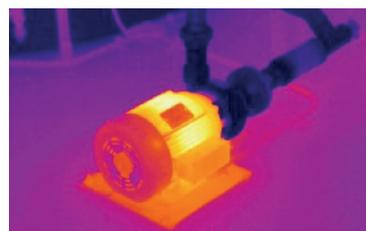

Fig.4
4. Checking electric motors (Fig. 4)